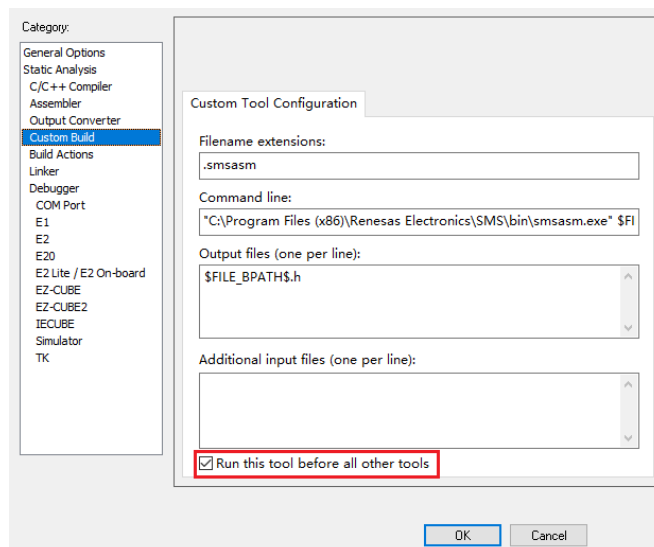

Figure 6-13 Custom build setting of IAR Embedded workbench V4.21
- 2) When using IAR Embedded workbench V4.21, make "Run this tool before all other tools" checked (refer to Figure 6-13)